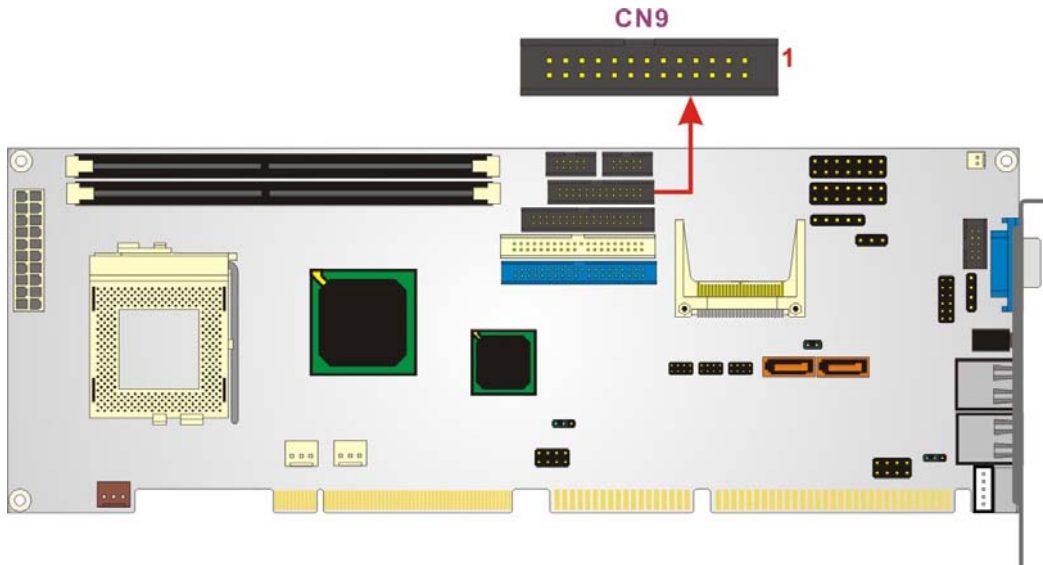

Figure 3-16: Parallel Port Connector Location
- CN Location: See Figure 3-16